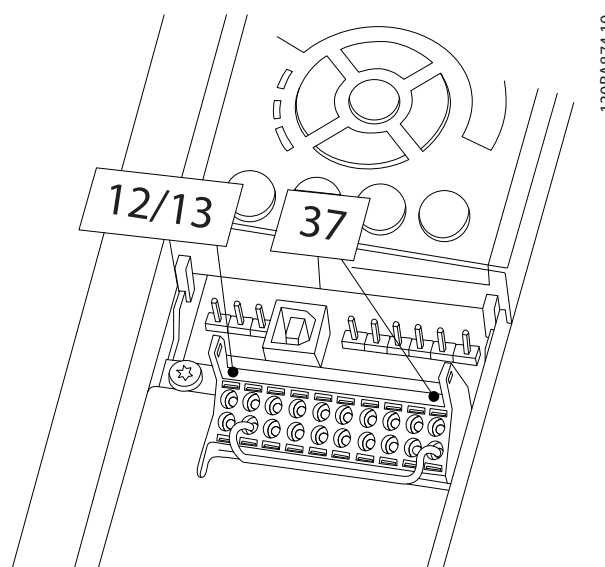

Figure 2.15 Jumper between Terminal 12/13 (24V) and 37
1. Remove the jumper wire between control terminals 37 and 12 or 13. Cutting or breaking the jumper is not sufficient to avoid short-circuiting. (See jumper on *Figure 2.15*.)
If the status line at the bottom of the LCP reads **AUTO REMOTE COAST**, this indicates that the unit is ready to operate but is missing an input signal on terminal 27. See *Figure 2.15* for details.